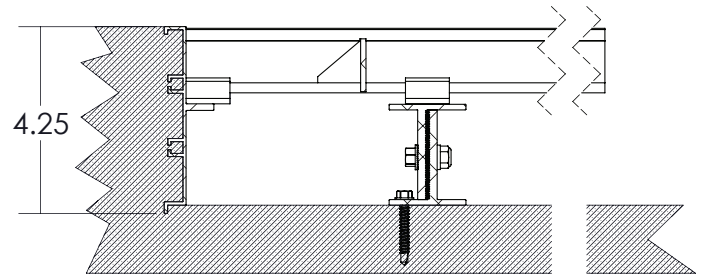

FIG 9
10. Adjust the height of the support legs on the ends of the cross supports so they sit level with the bottom of the grating cross-supports. (FIG 9) Level each support leg by tightening the bolts. If pit floor is sloped, shims may be needed to level the support legs. It is necessary that all support legs and cross supports be installed correctly to insure proper support of the grate.
12. Secure all support legs to the bottom of the pit with masonry fasteners. (FIG 9)